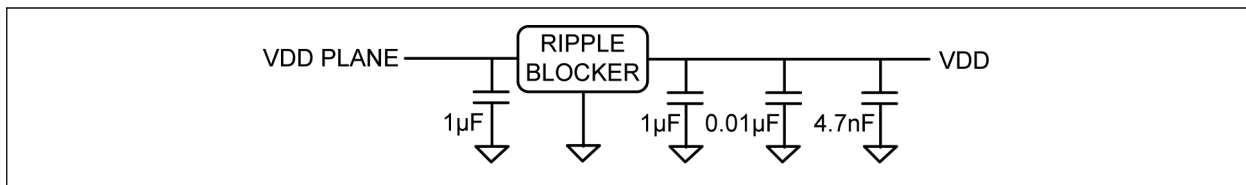

FIGURE 5-2: Filter Circuit with Ripple Blocker.
- To improve power supply filtering beyond what a ferrite bead can provide, the Ripple Blocker™ provides a solution. MIC94300 or MIC94310 are recommended parts. The filter circuit with Ripple Blocker is shown in Figure 5-2 and can be used along with any of the above V_{DD} sections except V_{DDO} .